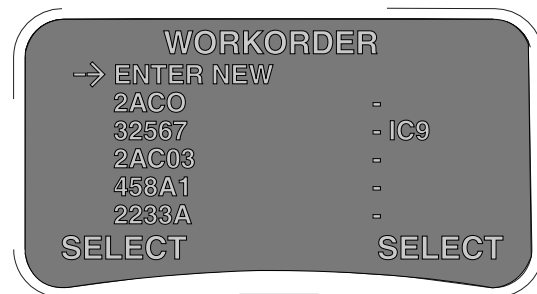

FIG. 14
The characters A-Z, 0-9, dash (-); forward slash (/), period (.), or space can be used when assigning a Work Order or Job Number. One Work Order can have more than one service using an extension in the order number (i.e., 123456.oil, 123456.atf). The meter can receive up to five (5) work orders at a time. See FIG. 14.
1. At the **Work Order/Job Number meter screen**, select the **Enter New** option using the up and down keypad buttons. When the arrow is positioned prior to the **Enter New** option, push either one of the two outside keypad buttons to **Select** the option. This will take you to a second screen to enter the Work Order/Job Number. Matrix meters can display up to 5 work orders and the Enter New command. See FIG. 14.